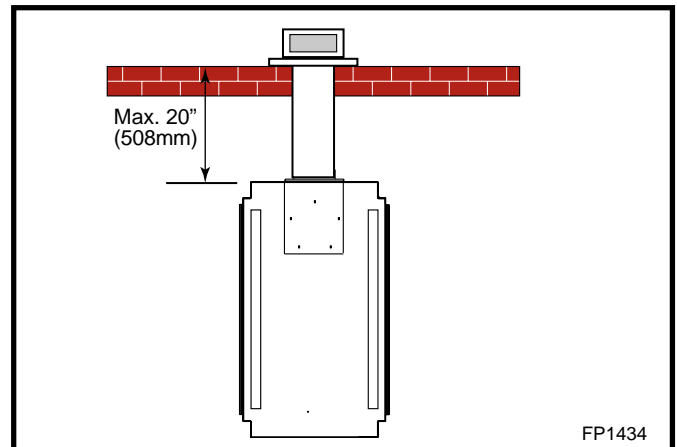

Fig. 17 Rear vent application.
- Specific rear vent starter kits must be used in these applications (see 'venting components'). The appliance has been approved for installation flat against a rear wall. (Fig. 17)
- Maximum horizontal distance between the rear of the appliance and the outside face of the rear wall is 20" (508mm). (Fig. 17)